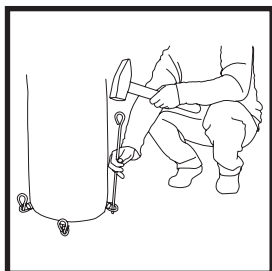

Fig. 4
7. Anchor the second leg of arc to the ground (Fig. 4).